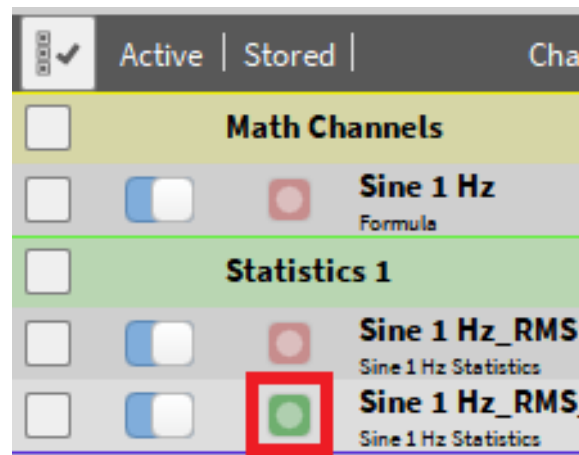

Fig. 7.170: Recognition of offline created channels
- Channels that have been created offline can be recognized on the Green Record button in the Channel List (see Fig. 7.170):